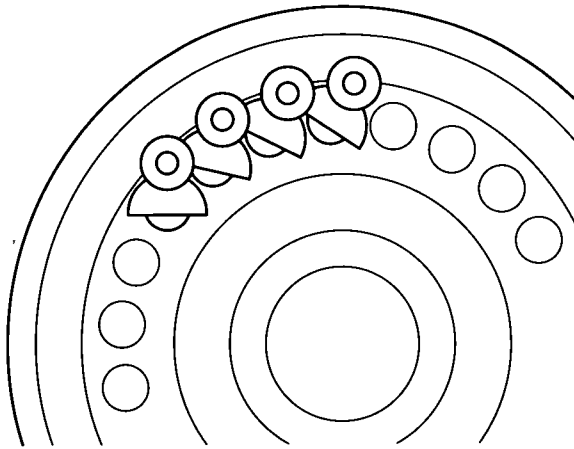

Figure 45 — Proper alignment of crank pins.
3. **Reverse the spindle in vise.** Lubricate crank pins and insert thru bearing block. Grease the ends of the crank pins and install rollers. Align the crank pins as shown in Figure 45, page 47.